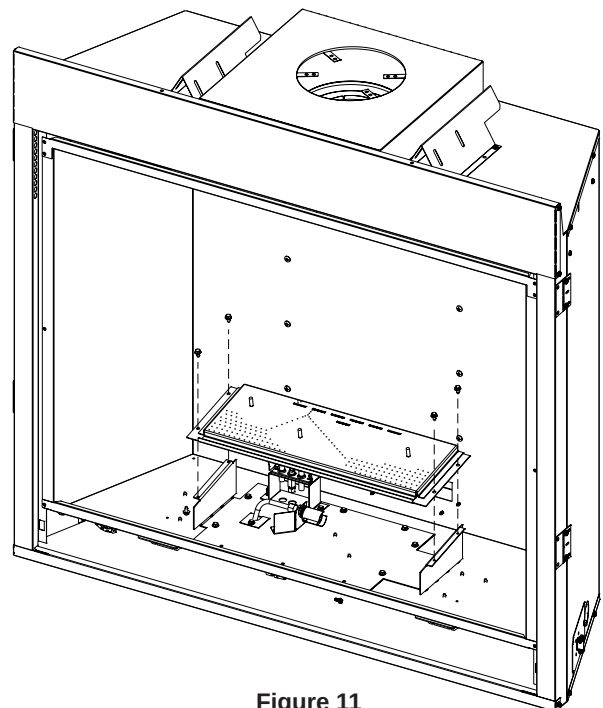

Figure 11
7. Remove the four screws securing burner, slide to burner right and lift off burner. Retain burner and screws for reassembly. **See Figure 11.**
15. Reinstall the burner and four screws removed in step 7. **See Figure 11.**